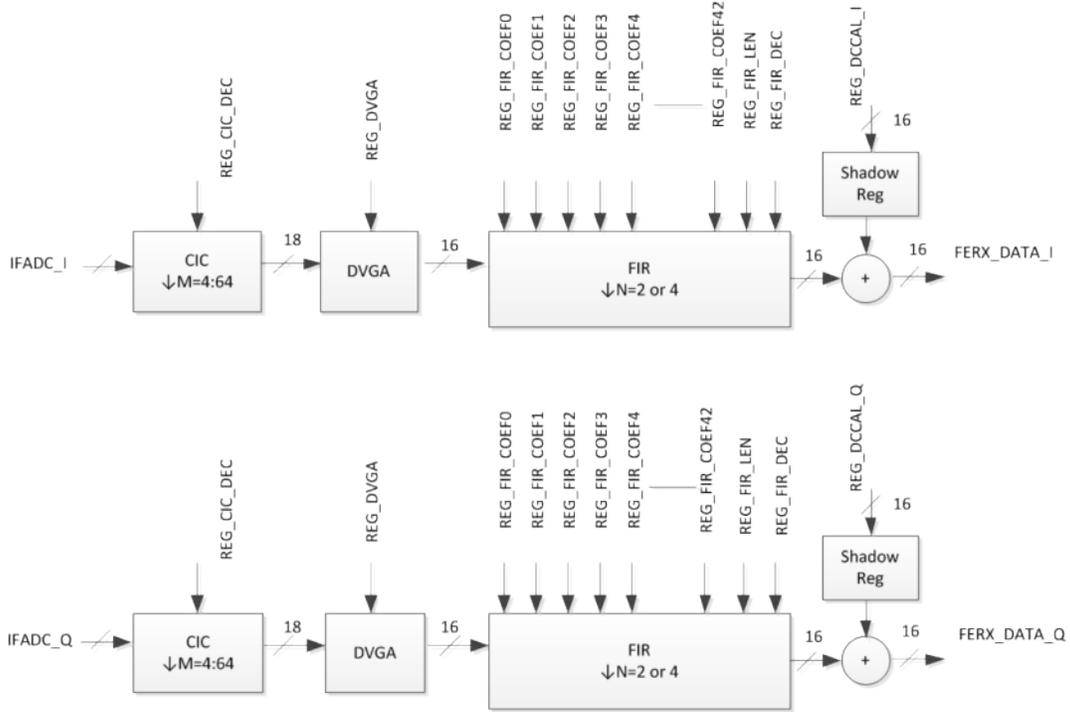

Figure 5-2. RX Digital Signal Processing
2. Additional filtering occurs in a programmable FIR filter (see Figure 5-2).